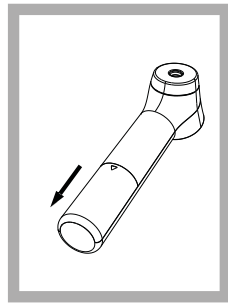

Figure 9
2. Slide battery cover down as shown in Figure 9.